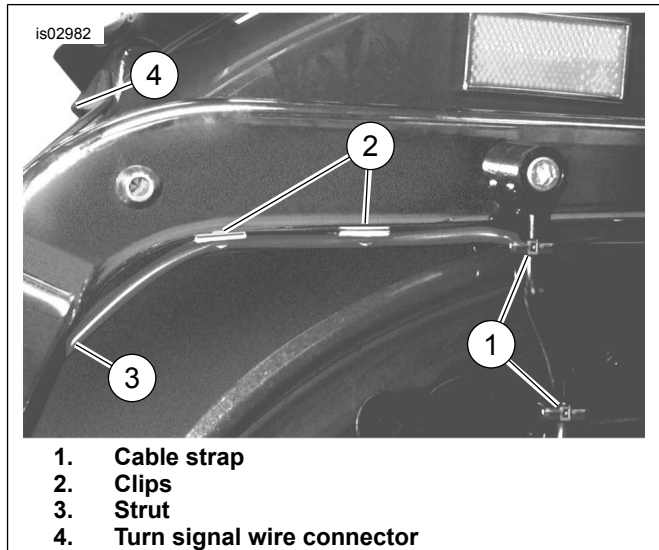

Figure 10. Route Wiring and Install Clips
6. See Figure 10. Continue routing wiring up the inside of front saddlebag support hanger and fasten wiring to hanger using cable straps (1), (Part Number 10006) provided in kit. Clip excess plastic from ends of straps. Remove adhesive backing from 2 clips and install to bottom of strut as shown (2). Insert wiring into each clip and bend tabs to capture wiring.
7. Continue to route wiring under strut (3) and around front of fender to turn signal wire connector (4) (right side of fender under seat).